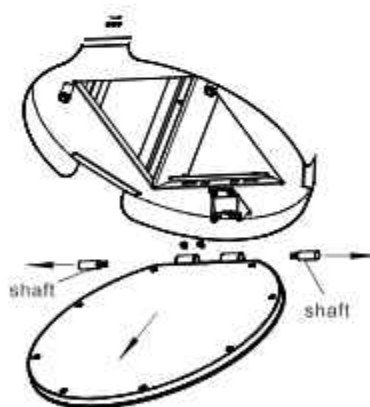

Fig.29
- Loose two screws as indicated Fig.29